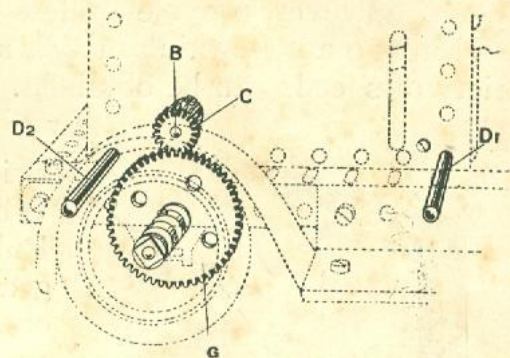

Fig. 2
6. Place motor into position on Chassis by putting the two No. 77 Axles (D1, D2) through the 2nd and 10th holes of the Chassis (from the rear) (Fig. 2).